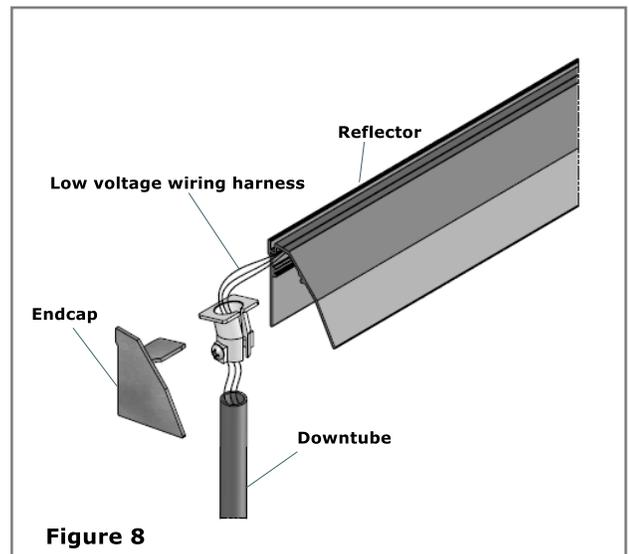

Figure 8
- Endcaps and downtube connectors are already installed on the reflector. Cut the downtube(s) to desired length, de-burr any sharp edges. Feed the wires of the low voltage wire harness thru the end of the downtubes (if required) and secure the downtube to the downtube connector. **See Figure 8.**